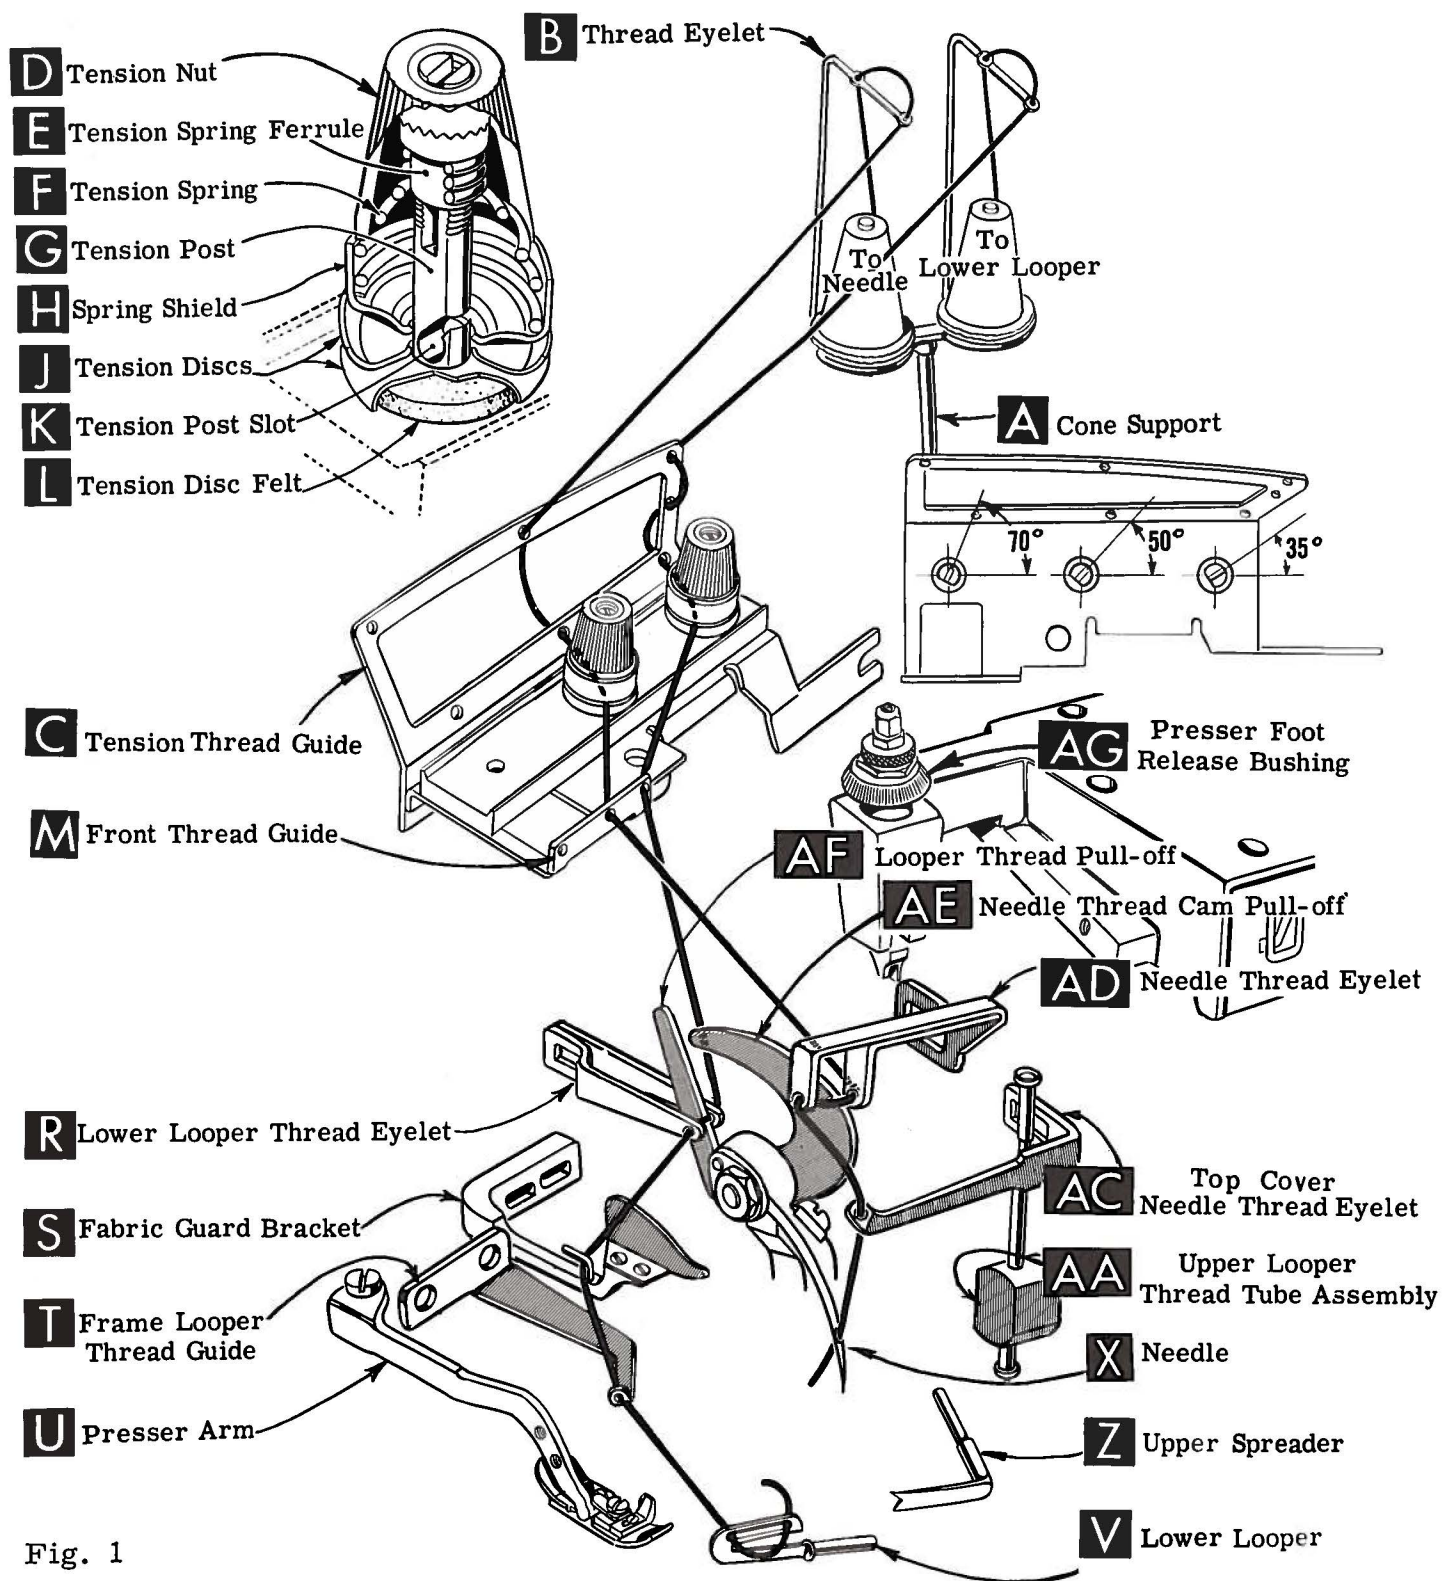
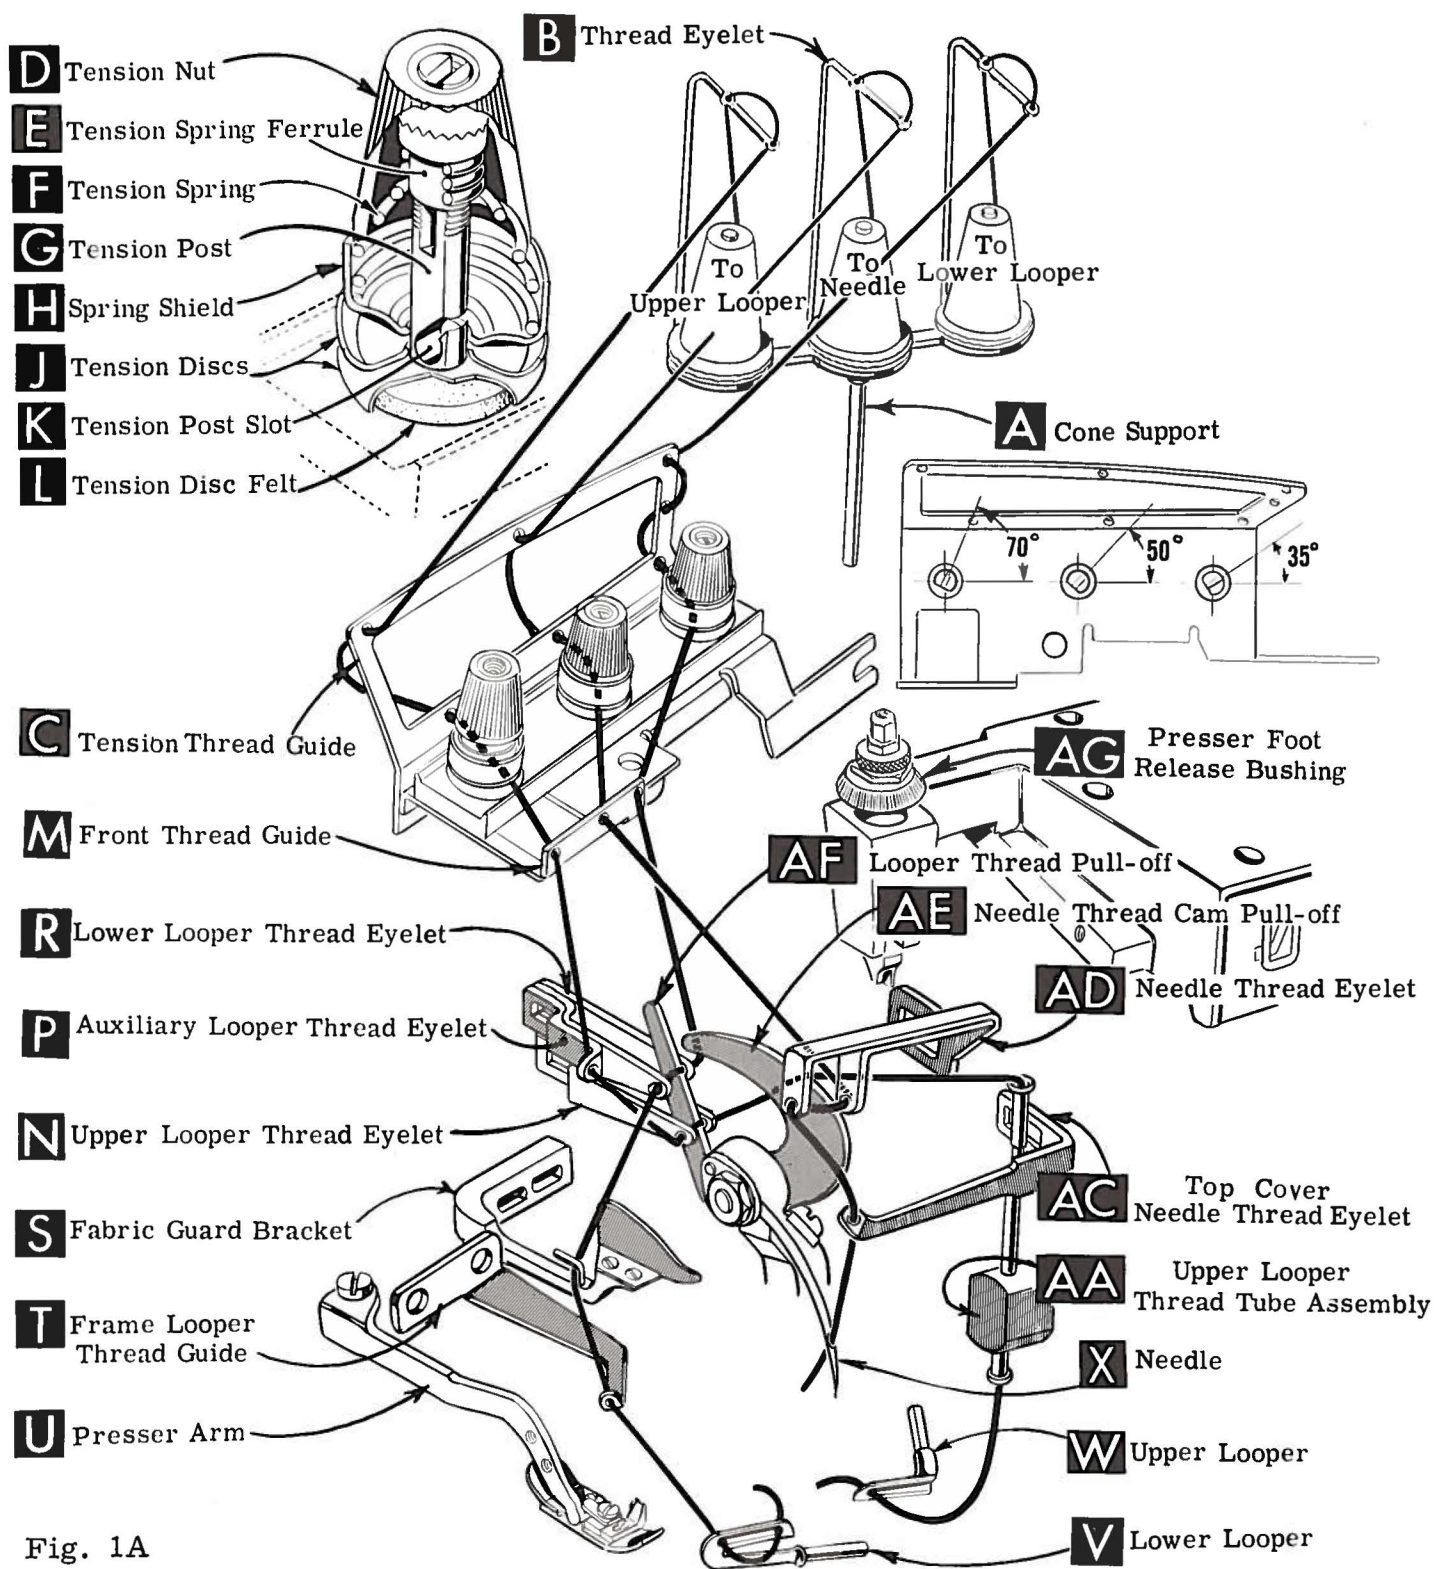

Fig. 1
Fig. 1A
Release pressure on presser foot by turning presser foot release bushing (AG, Fig. 1 and 1A) and swing presser arm (U) out of position. Turn handwheel in operating direction until needle is at its lowest point of travel. Using hexagonal socket wrench No. 21388 AU, furnished with machine, loosen needle clamp nut about 1/4 turn. Again turn handwheel until needle is at high position; withdraw needle.
After thread comes from cone on cone support (A, Fig. 1) it is brought up through the back hole of thread eyelet (B), then down through the front hole of thread eyelet. The needle thread is then threaded through the upper hole of tension thread guide (C) from front to back, and then through the lower hole from back to front. The lower looper thread is threaded through the upper hole back to front, through the middle hole from front to back, and finally through the lower hole from back to front. Both threads then continue between the tension discs (J), through tension post slot (K) in tension post (G) and on through front thread guide (M).
After thread comes from cone on cone support (A, Fig. 1A) it is brought up through the back hole of thread eyelet (B), then down through the front hole of thread eyelet. The needle and upper looper threads are then threaded through the upper hole of tension thread guide (C) from front to back, and then through the lower hole from back to front. The lower looper thread is threaded through the upper hole back to front, through the middle hole from front to back, and finally through the lower hole from back to front. All three threads then continue between the tension discs (J), through tension post slot (K) in tension post (G) and on through front thread guide (M).
NOTE: Refer to Fig. 1 for the 503 stitch threading or refer to Fig. 1A for the 505 stitch threading.
Only parts involved in threading are shown in threading diagrams Fig. 1 and 1A. Parts are placed in their relative positions for clarity.
It will simplify the threading of these machines to follow the recommended sequence of threading the lower looper first and the needle second, when using the 503 stitch (Fig. 1). The recommended sequence when using the 505 stitch (Fig. 1A) would be to thread the lower looper first, the upper looper second and the needle third.
Be sure the threads, as they come from the tension thread guide (C), are between tension discs (J) and in tension post slots (K) in tension post (G). The tension posts should be positioned so the tension post slot will be at the approximate angle for the different threads as indicated in Fig. 1 and 1A.
Double end of thread and lead it through the right eyelet of front thread guide (M, Fig. 1 or 1A). Then lead thread through both eyes of lower looper thread eyelet (R, Fig. 1 or 1A) from right to left. NOTE: Thread must pass in front of looper thread pull-off (AF). Lead thread behind fabric guard (S) and through frame looper thread guide (T). Turn handwheel in operating direction until heel of lower looper (V) is all the way to the left, then thread through both eyes from left to right. Left eye of lower looper can be threaded easily if tweezers are in left hand.
NOTE: In Fig. 1A for the 505 stitch, the lower looper thread eyelet is placed in the upper position.
Double end of thread and lead it through the left eyelet of front thread guide (M, Fig. 1A). Turn handwheel until point of upper looper (W, Fig. 1A) is all the way to the left. Lead thread through auxiliary looper thread eyelet (P) from back to front, then through both eyes of upper looper thread eyelet (N) from left to right.
Turn handwheel in operating direction until needle (X, Fig. 1 or 1A) is at its highest position. Insert needle thread from right to left, through both eyes of needle thread eyelet (AD), under neck of top cover casting; then down through hole in top cover needle thread eyelet (AC). Thread needle from front.
The amount of tension on the needle and looper threads is regulated by knurled tension nuts (D, Fig. 1 or 1A). Tension on threads should be only enough to secure proper stitch formation.
Be sure machine is threaded according to threading diagram Fig. 1 for the 503 stitch or according to Fig. 1A for the 505 stitch. With thread tensions light, set looper thread eyelet (R, Fig. 1) or looper thread eyelets (N and R, Fig. 1A) approximately horizontal and in the middle of their front to back locations. Operate machine slowly, without presser foot in place, to make sure chain forms and moves off stitch tongue freely. Swing presser foot into position, insert material and sew slowly.
While sewing on material, check needle thread control as follows: Usually all of the needle thread required for the stitch is drawn on the needle downstroke. With needle at the bottom of its stroke, needle thread cam pull-off (AE, Fig. 1 or 1A) should just touch the needle thread. To increase the amount of needle thread drawn on the downstroke, position needle thread eyelet (AD) farther to the rear.
Set lower looper thread eyelet (R, Fig. 1 or 1A) approximately horizontal. Frame looper thread guide (T) should be set with its eyelet approximately 1/8 inch to the right of lower looper (V) heel eyelet, at the time the lower looper is at the extreme left end of its travel.
With material under presser foot, set upper looper thread eyelet (N, Fig. 1A) so it contacts the lower looper thread eyelet (R) and is back far enough so upper looper thread is a little slack when upper looper reaches the left end of its stroke.